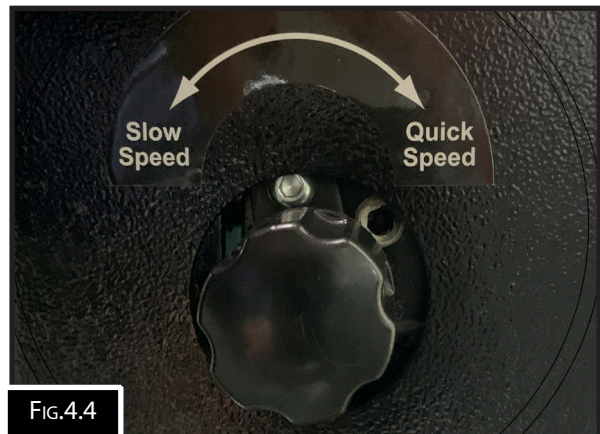

FIG.4.4
3. Turn the speed selector to fast (Fig.4.4) and pump the handle or press the pedal to bring the ram very lightly into contact with the workpiece.
5. When satisfied that the workpiece is correctly aligned and is completely stable in that position, turn the speed selector to slow (Fig.4.4) and slowly pump the handle or press the pedal so that the ram begins to exert pressure on the work piece. Continue to pump the handle or press the pedal whilst standing to the side. Do NOT stand directly in front of the work, and constantly monitor the process, ensuring the ram and work remain completely in line and there is no risk of slipping.